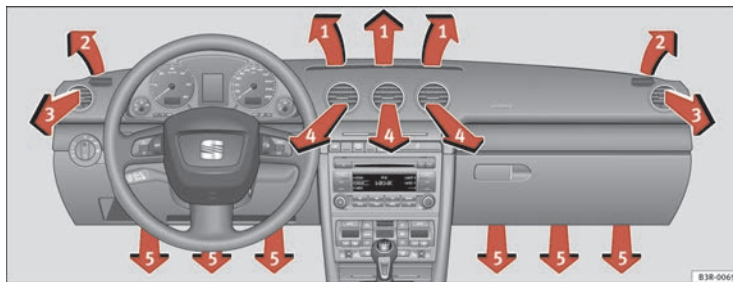

Fig. 132 Dash panel: Location of air outlets
The air outlets ⇒ fig. 132 ③ and ④ can be operated as follows:
Each of the three buttons has a specific function. The numbers relate to the air outlets ⇒ page 163, fig. 132.
After the ignition is switched off, the blower is supplied with electrical power from the sunroof. Please ensure that outlets 3 and 4 are open ⇒ page 163, fig. 132 to ensure the best possible ventilation.